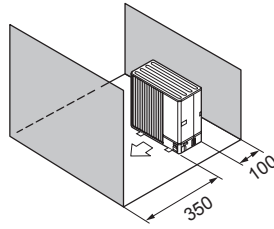

Fig. 2-28
- ⑤ Obstacles at front and rear only (Fig. 2-28)